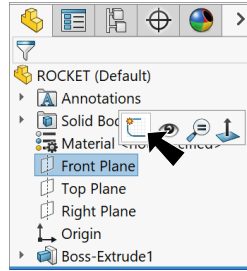

Fig. 5
Step 1. Click **Front Plane**  in the Feature Manager and click **Sketch**  on the context toolbar, **Fig. 5**.